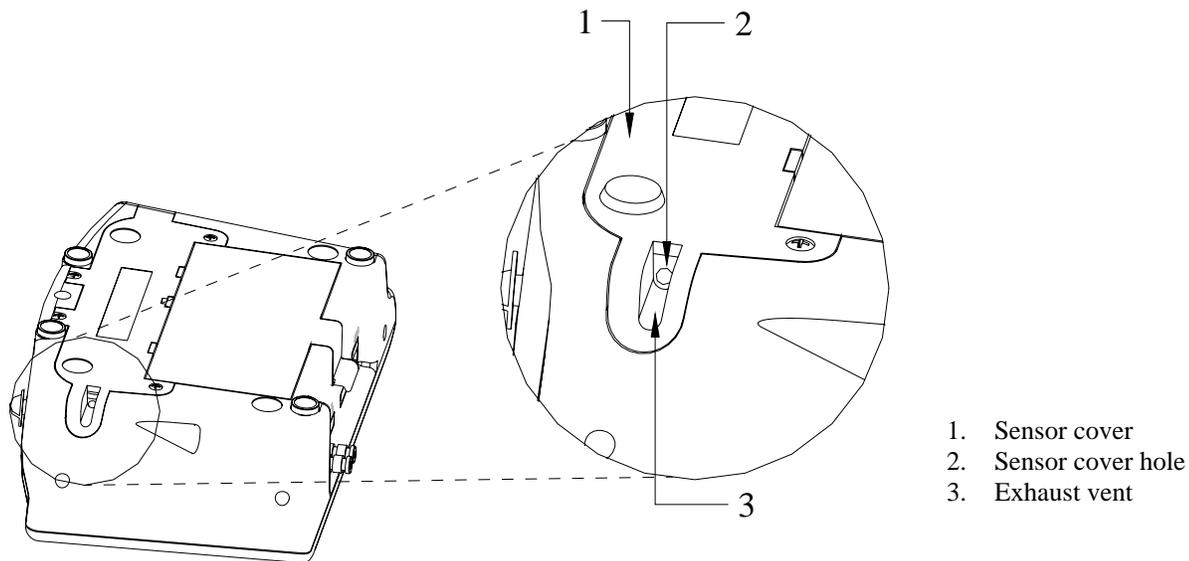

Figure 21: Alignment of Sensor Cup Hole with Sensor Cover Exhaust Vent
11. Once the sensor cover is replaced, make sure the outlet hole on the CO sensor cup is clearly visible through the sensor cover vent (see Figure 21).